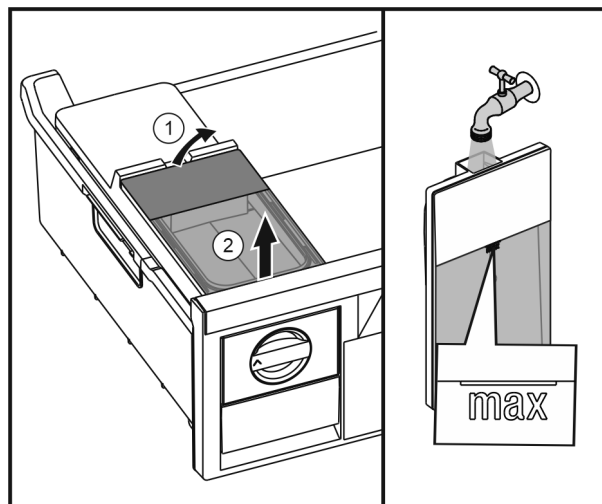

Fig. 30
- ▶ Lift up the water tank at the rear Fig. 30 (1) and remove to the top Fig. 30 (2).